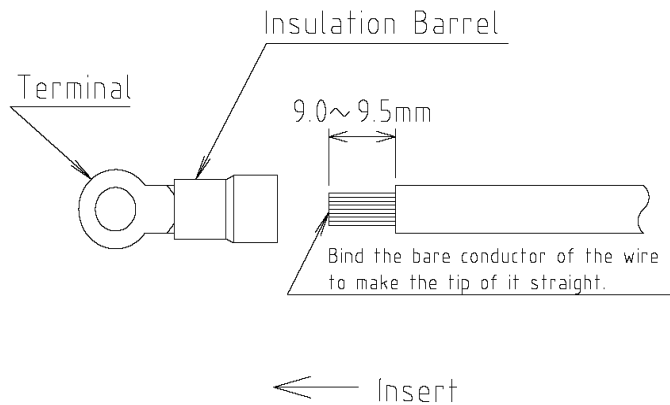

FIGURE 2-22
- a. Refer to **Figure 2-22**. Strip approximately 9.0 ~ 9.5mm of the insulation by using the appropriate wire stripping tool for a 6mm² wire.